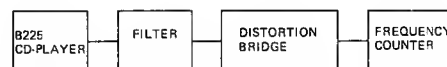

Fig. 4.21
- Measuring arrangement according to Fig. 4.21.